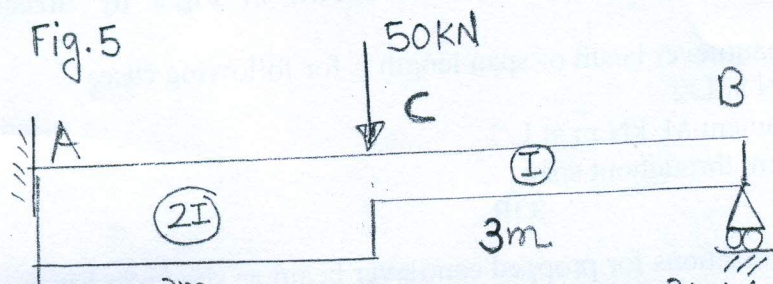

Fig.6
**(A)** Determine unknown reactions for propped cantilever beam as shown in **Fig.6.** 05